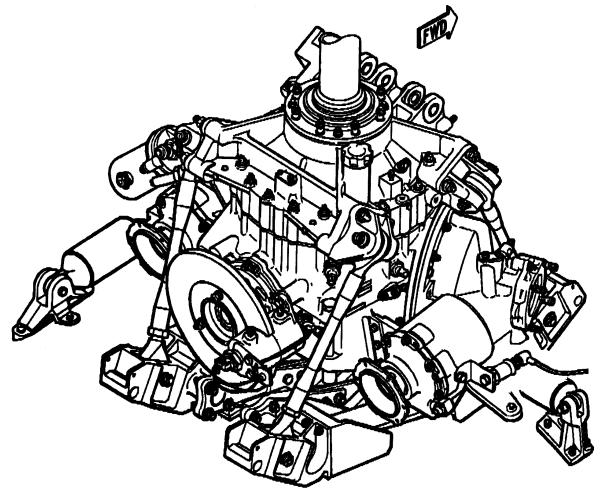

Figure 2
2. Gain access to the right hand side of the main transmission. Mount 991D-1 sensor (P/N 10-100-0075) to sensor bracket (P/N 22-430-0036) on the right hand input quill of the transmission. Sensor connector must face forward as shown in Figure 2. Connect sensor cable (P/N 20-320-0163) to sensor and route into cabin area and secure cowling. Connect sensor cable to channel B of the analyzer.